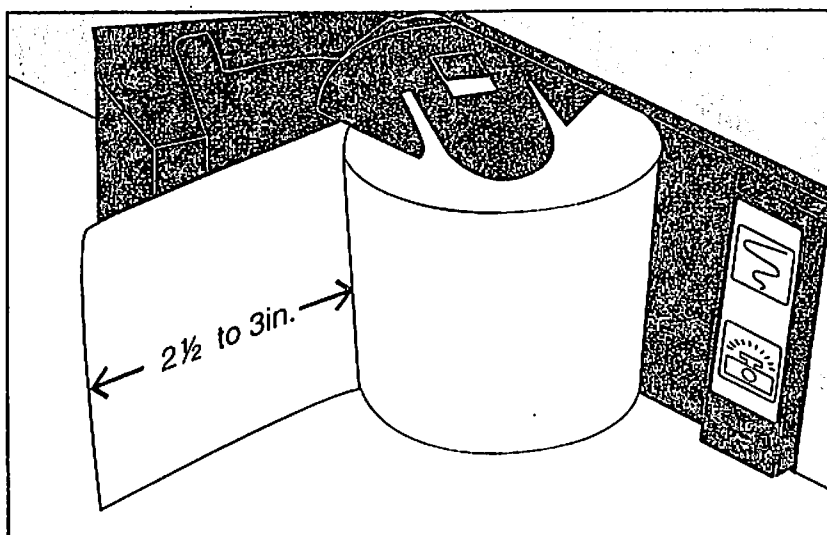

Figure A-2. Paper Loading
3. Place a new paper roll between the tabs of the paper holder. Paper should unroll counterclockwise. See Figure A-2, Paper Loading.